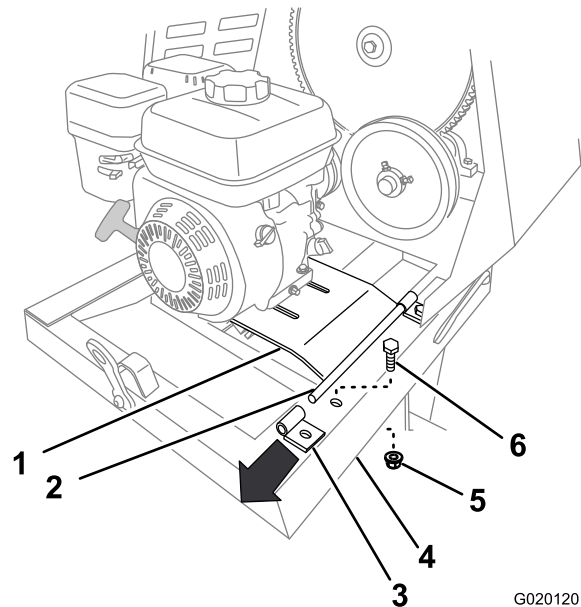

Figure 51
- Remove the bolt and nut that secures the rear bracket for the engine deck hinge to the frame of the machine (Figure 51).
- Lift up on the rear edge of the engine deck and remove the hinge bracket (Figure 51).
6. Secure the rear bracket to the frame of the machine using the bolt and nut (Figure 51) removed in step 6 of Removing the Engine (page 31).